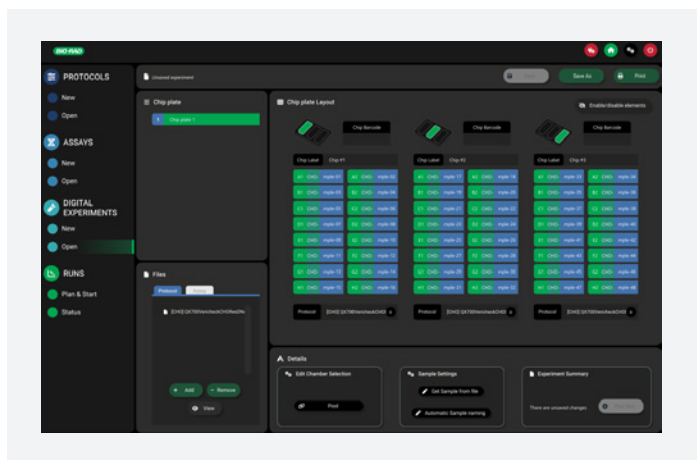

Fig. 2. Example plate setup. Apply a protocol file to all chips and an assay file to all wells.
6. Apply the assay file by selecting all wells and dragging the file to all wells. An example plate setup is shown in Figure 2.